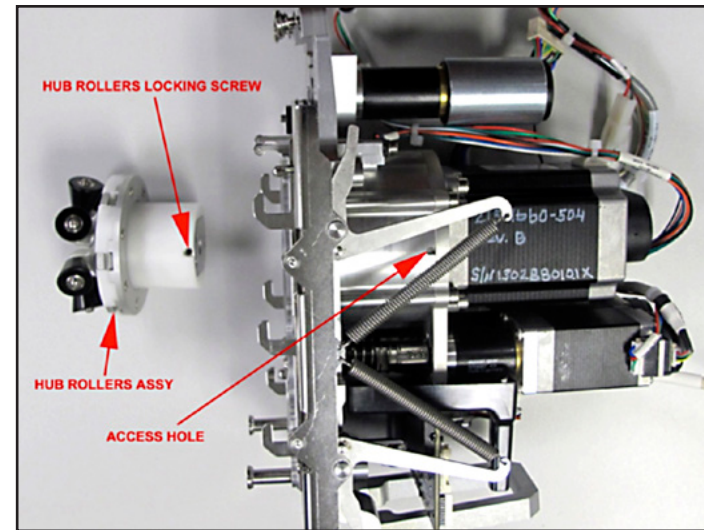

Figure 3-71 View of Hub Roller Removed from Fluidics Module
- 53.3 Insert a 2 mm Allen wrench to the access hole and manually rotate Hub Roller until the tip of the 2 mm Allen wrench is lined up with Hub Roller locking screw (see Figure 3-71).